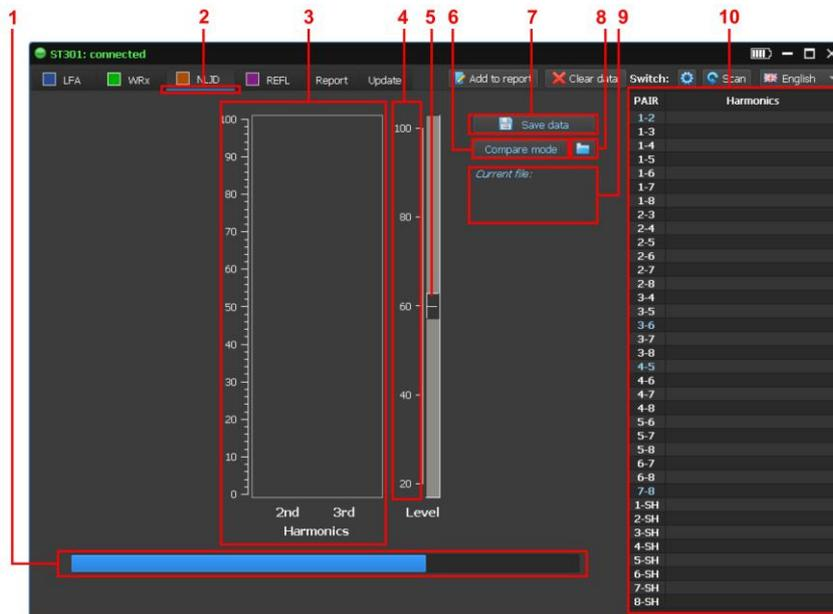

Fig.74
To enable NLJD click  PC screen shown in Fig.74.
In Fig.74:
After turning on the device, calibration takes place within a few seconds. This process is shown on the indicator (Fig. 74, item 1). After that, NLJD is ready to operate.
1. Configure the Switch according to the type of cable being tested (item 8.1.6).
2. Set the probe signal level, move the slider (Fig. 74, item 5) to the desired position. If the length of the tested cable is less than 100 m, it is not recommended to set the level to more than 60%
To save the data, click  (Fig. 74, item 7). A window for entering comments appears on the screen. It is recommended to indicate the identification data of the cable under test and the level of the probing signal.
1. Download the saved file by clicking  (Fig.74, item 8). After loading, the indicator (Fig.67, item 9) will display the file name and the entered comment.